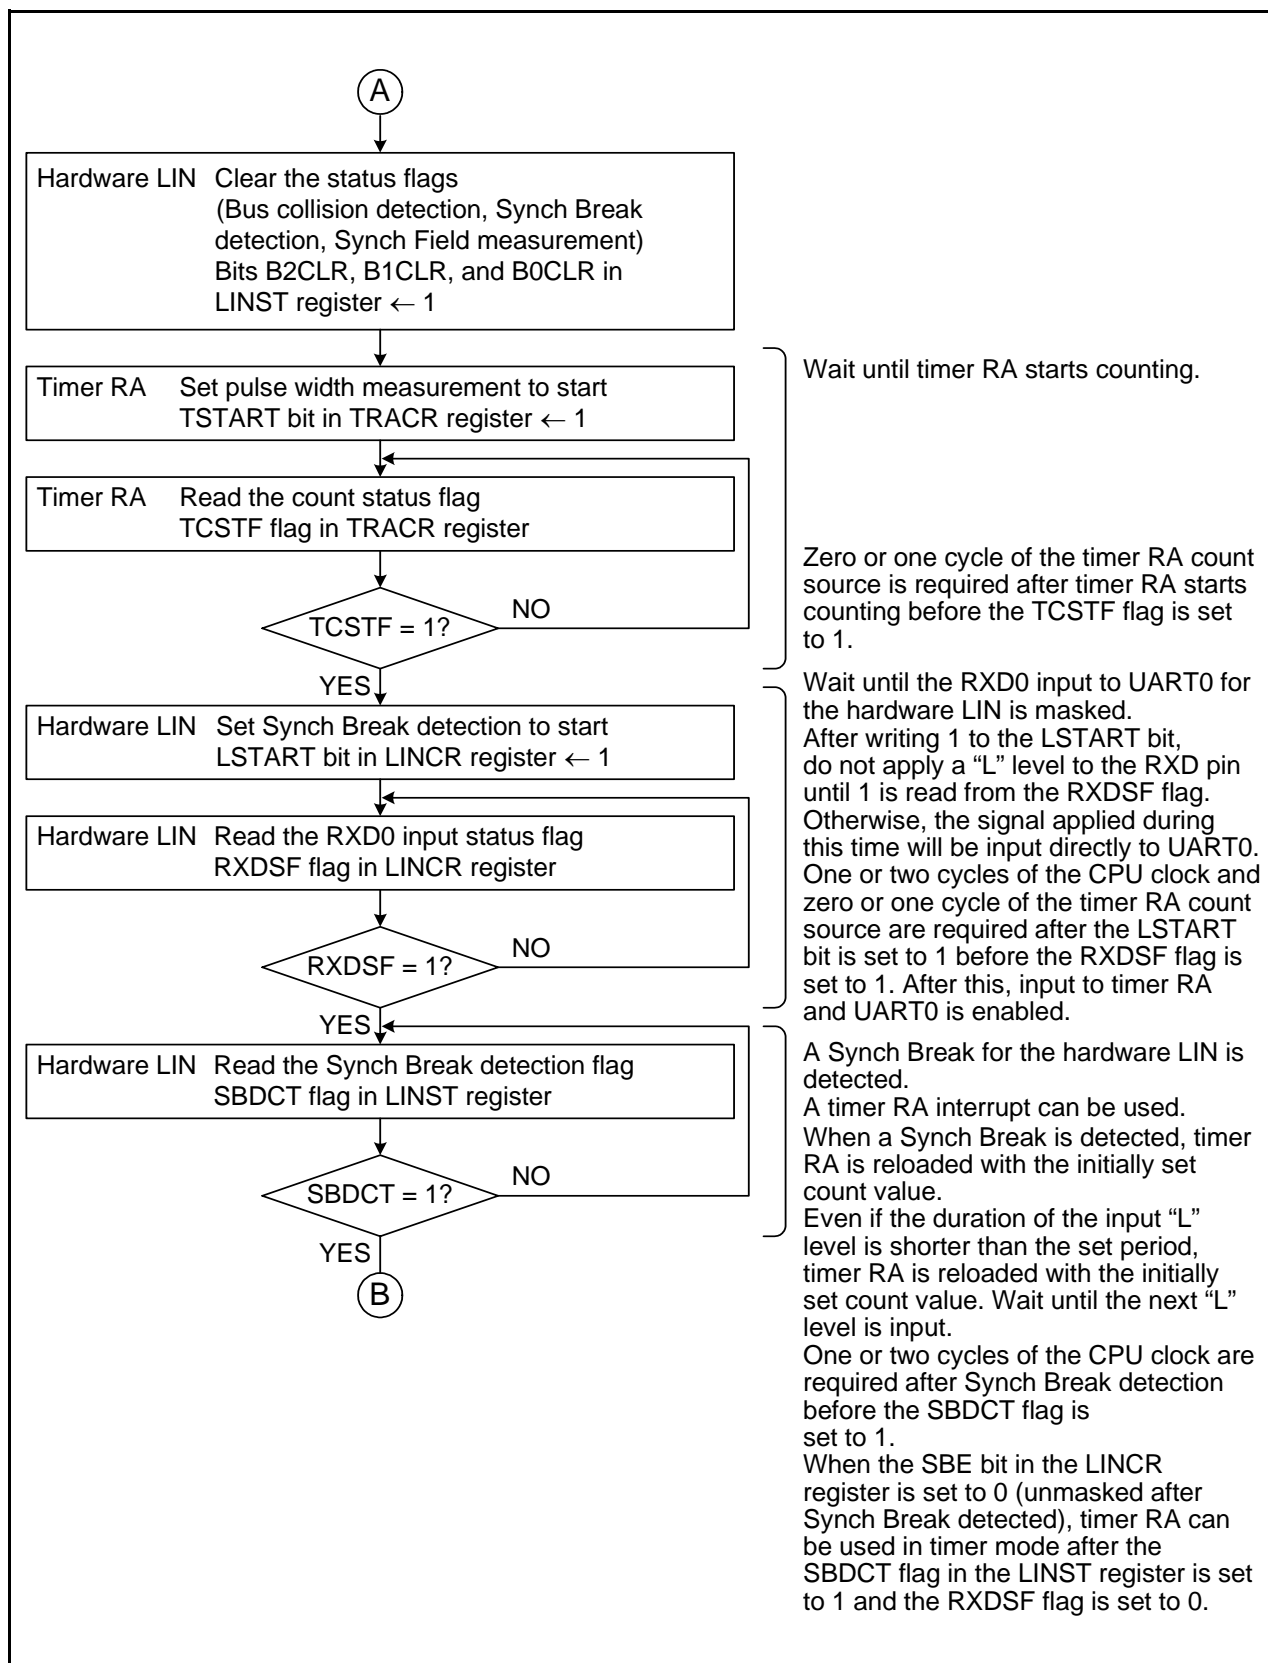

Figure 29.7 Header Field Reception Flowchart Example (2)
(Refer to **Figure 29.3 Header Field Transmission Flowchart Example (1)** and **Figure 29.7 Header Field Reception Flowchart Example (2)**.)